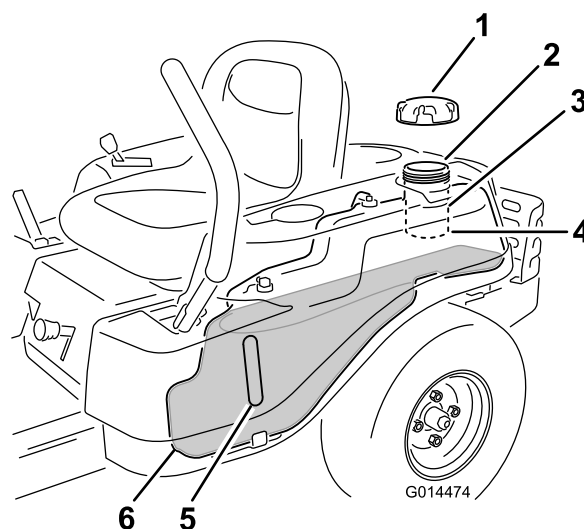

Figure 8
Note: You can use the fuel window to verify the presence of gasoline before filling the tank (Figure 8).
2. **Slowly** add gasoline until the fuel reaches the base of the filler neck (Figure 8).